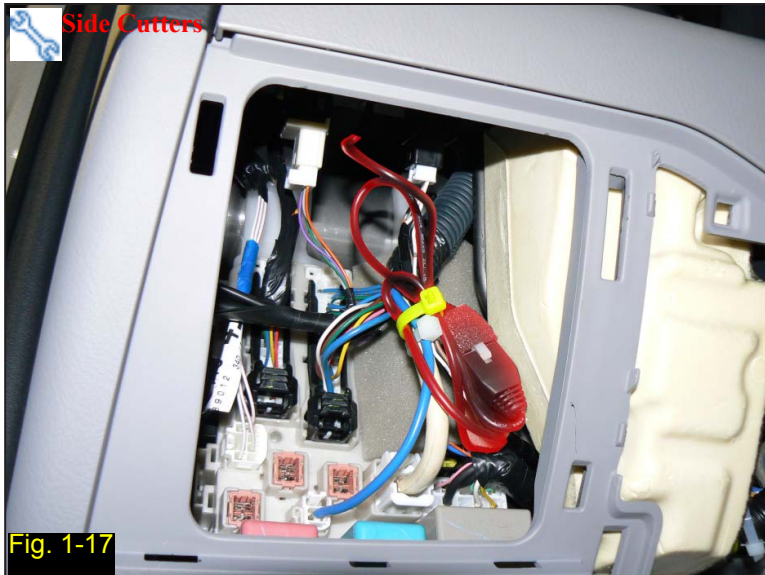

Fig. 1-17
1. Run the switch cable down through the opening of the lower left panel (Fig. 1-17).